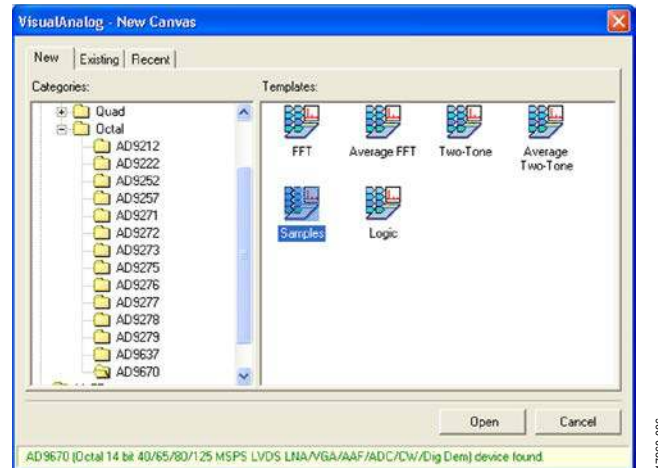

Figure 6. VisualAnalog Canvas Selection Window
8. Launch the **VisualAnalog** software to use the canvas templates listed in the **AD9670** directory in the **Categories** pane (see Figure 6). The **Samples** canvas shows time domain output samples vs. sample count.